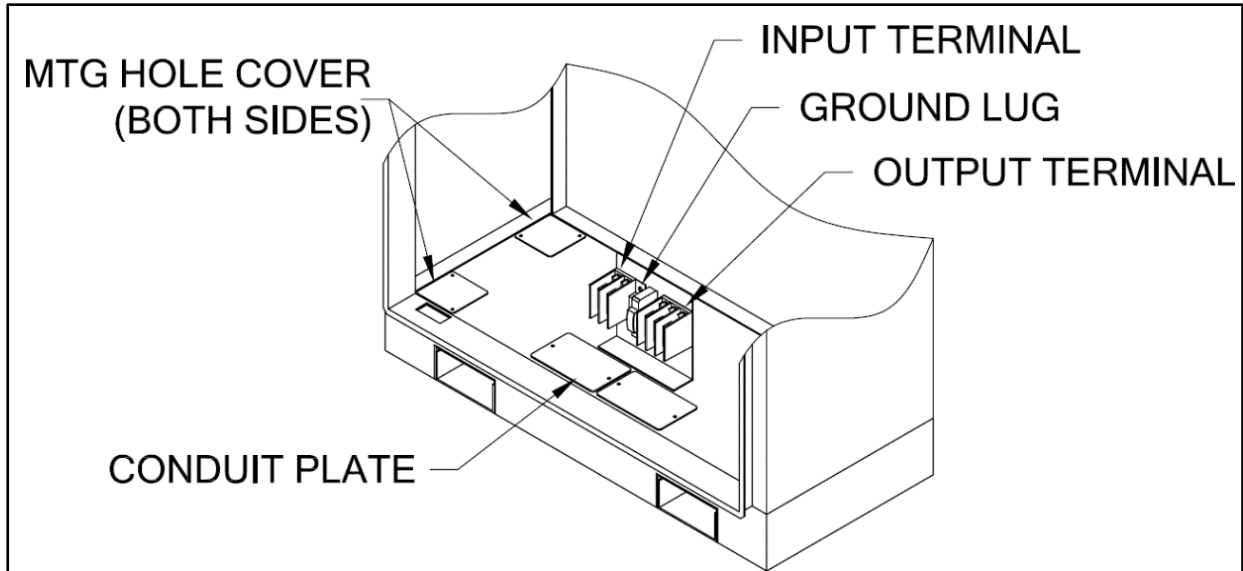
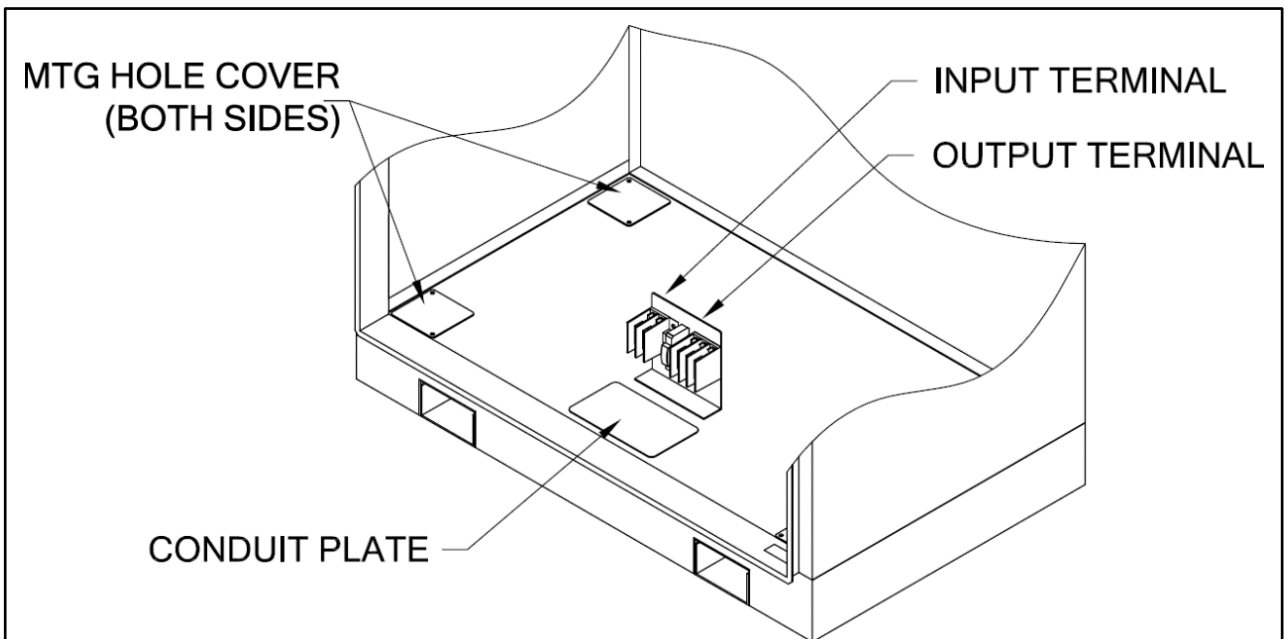

Figure 4-3 3KVA/3KW systems
Figure 4-4 All other systems
2. Anchor the cabinet to the mounting pad by removing the 4 corner mounting plates (see Figure 4-3 and Figure 4-4 for Anchoring and conduit plate).